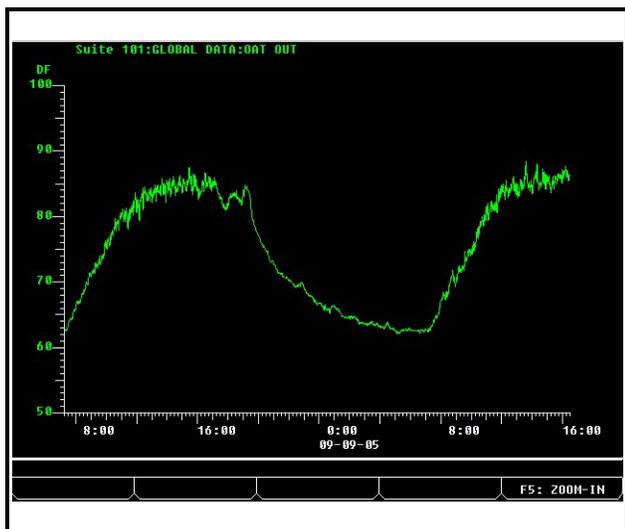

Figure 11-27 - Sample Graph View
- **F3** GRAPH - Displays logged data in a graph format (see *Sample Graph View Figure 11-27*).